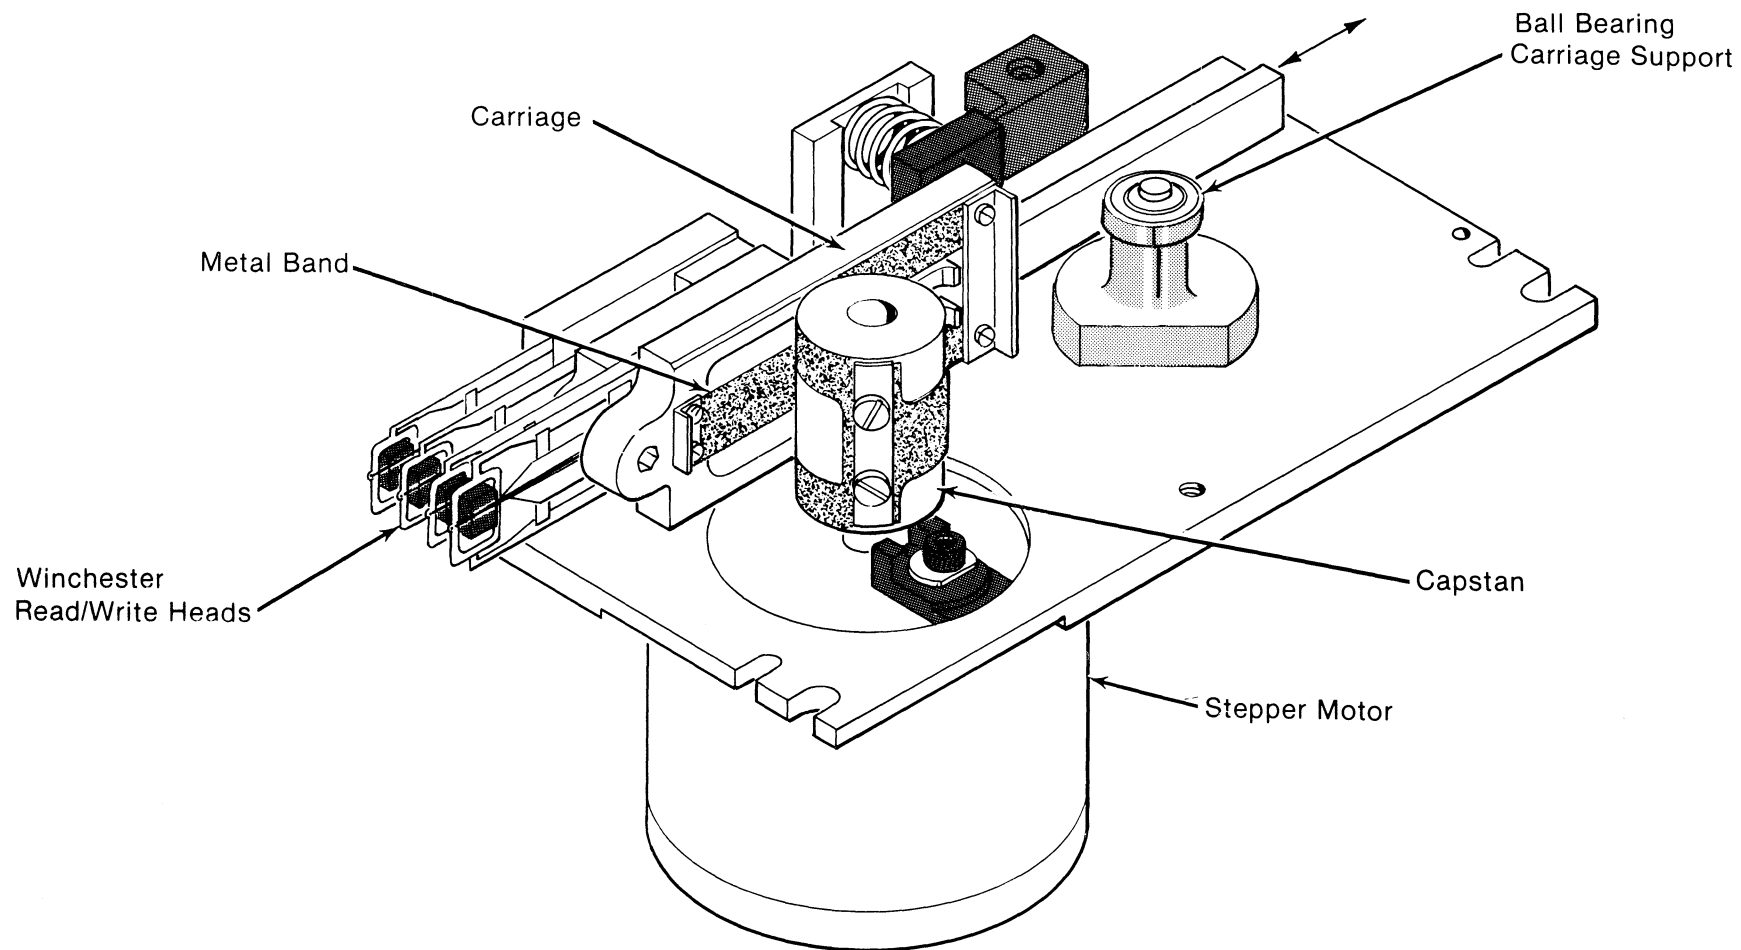

Figure 2 Posiitoning Mechanism
2.5 Positioning Mechanism (Figure 2)